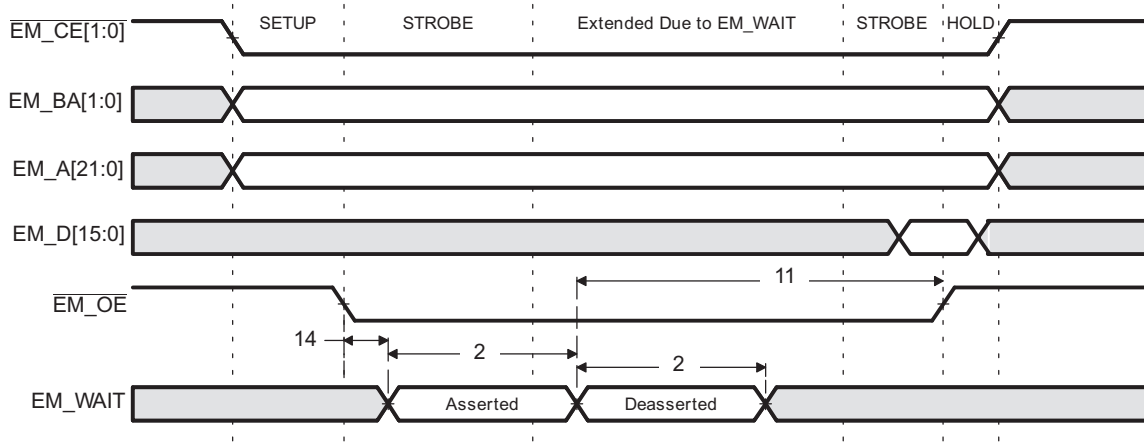
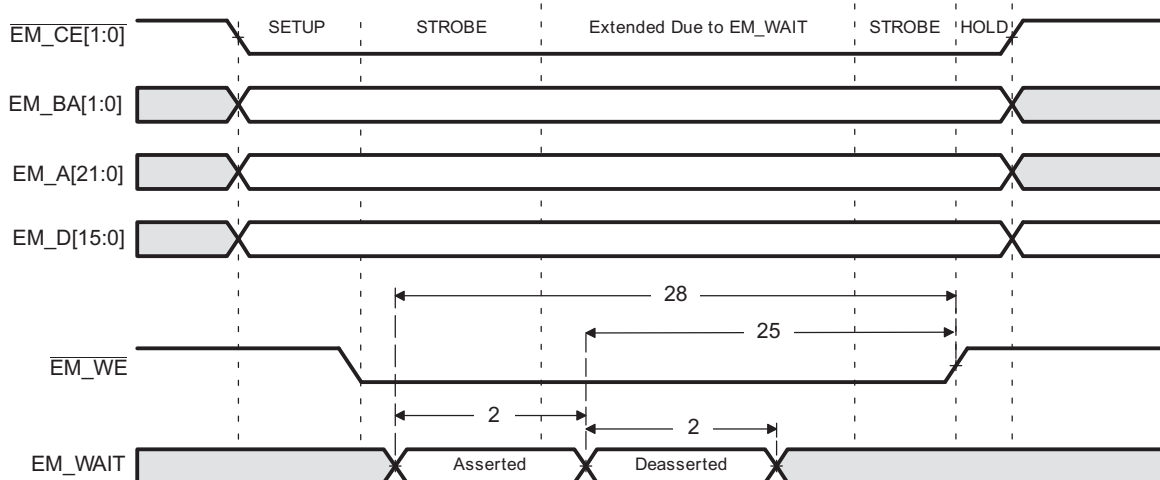

Figure 6-15. EM_WAIT Read Timing Requirements
Figure 6-16. EM_WAIT Write Timing Requirements
(1) E=2*PLL1C SYSCLK4 period in ns. See Section 3.3 for more information.
(2) Setup before end of STROBE phase (if no extended wait states are inserted) by which EM_WAIT must be asserted to add extended wait states. Figure 6-15 and Figure 6-16 describe EMIF transactions that include extended wait states inserted during the STROBE phase. However, cycles inserted as part of this extended wait period should not be counted; the 4E requirement is to the start of where the HOLD phase would begin if there were no extended wait cycles.